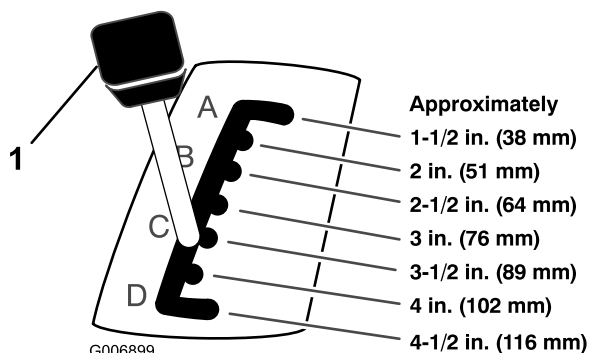

Figure 17
5. Pull on the height-of-cut lever on the tractor and move it to the desired position (Figure 17).